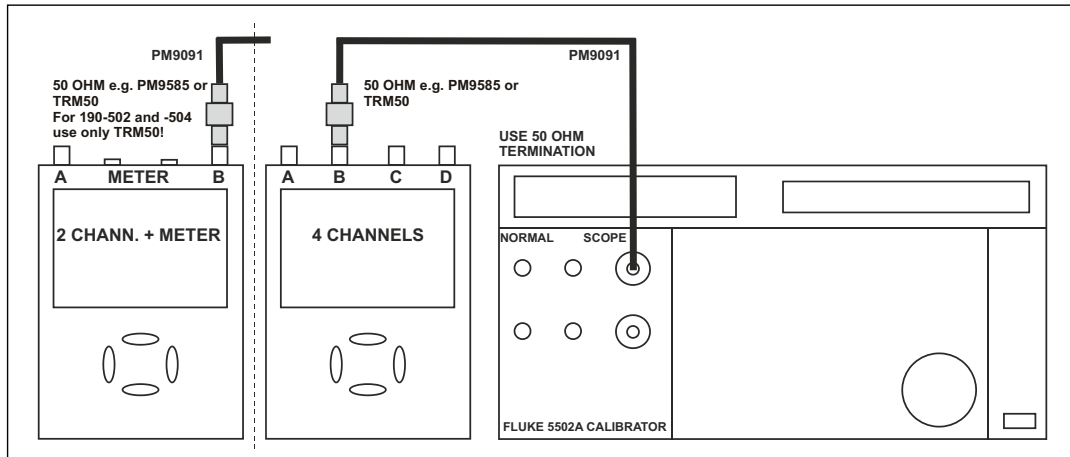

Figure 5-12. 5502A SCOPE Output to Test Tool Input B
2. Connect the Test Tool to the 5502A as shown in Figure 5-12.